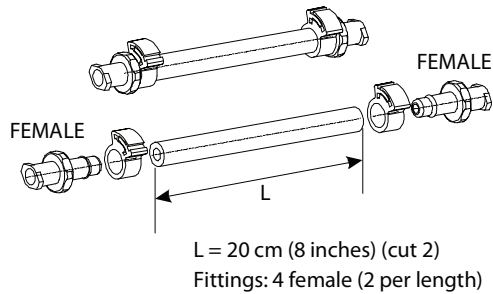

Figure 21: Set-up of pump inlet and outlet tubing, fittings and clamps.
2. Cut one of the two Sta-Pure (white) tubing and install fittings and clamps as shown in figure 21. Use only one Sta-Pure (white) tubing for pump outlet. The other Sta-Pure (white) tubing is used for cleaning.